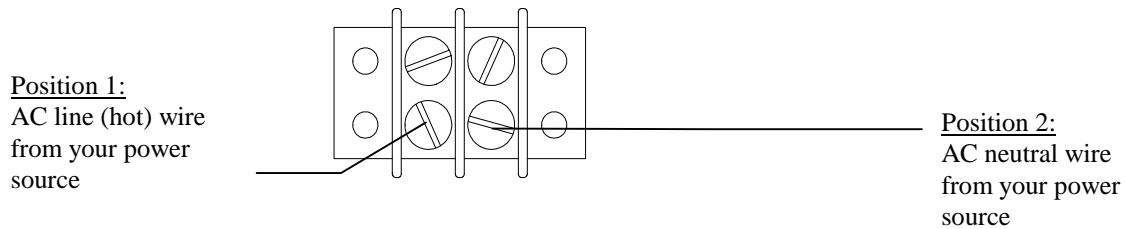

Figure 7 Power Connections
4. Connect the AC line wire to position 1 and AC neutral wire to position 2 of terminal strip T3 on the junction chassis according to figure 7.